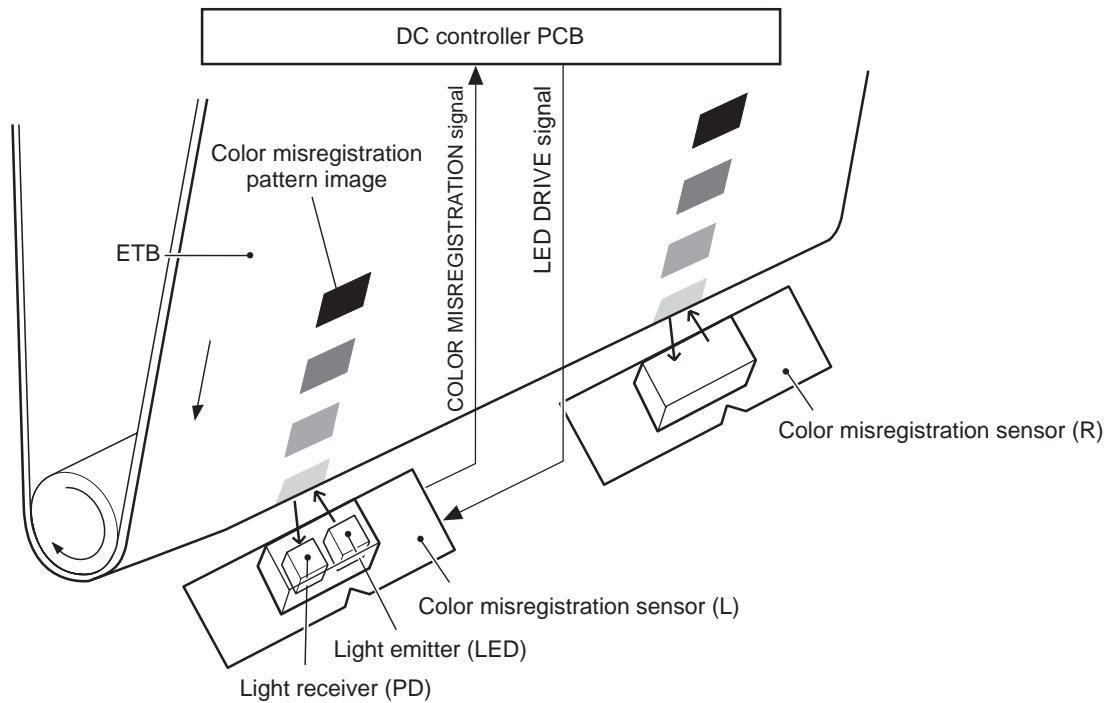

Figure 5-33 Image density detection
Each of the image stabilization controls uses the color registration unit at the top of the ETB to measure image density. The image density detection is performed by the DC controller, which controls the color misregistration unit during the D-half control. The color misregistration unit is placed under the ETB and consists of two detection sensors, each having one light emitter (LED) and one light receiver (PD). Figure 5-33 Image density detection on page 193 illustrates this process.